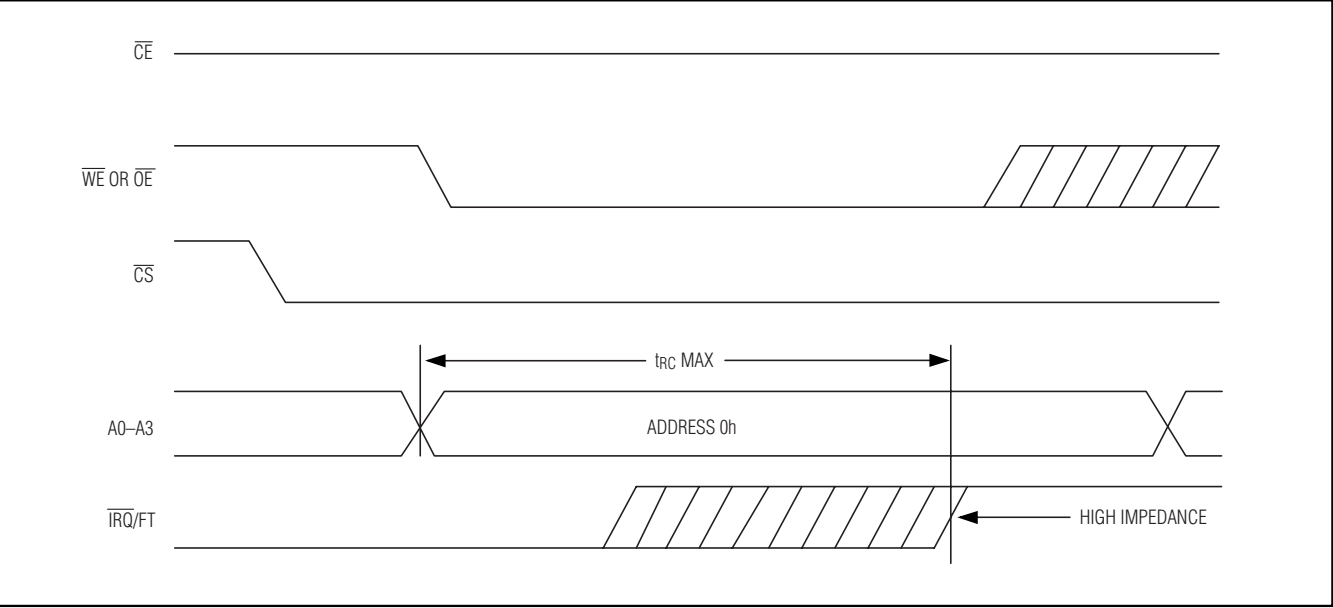
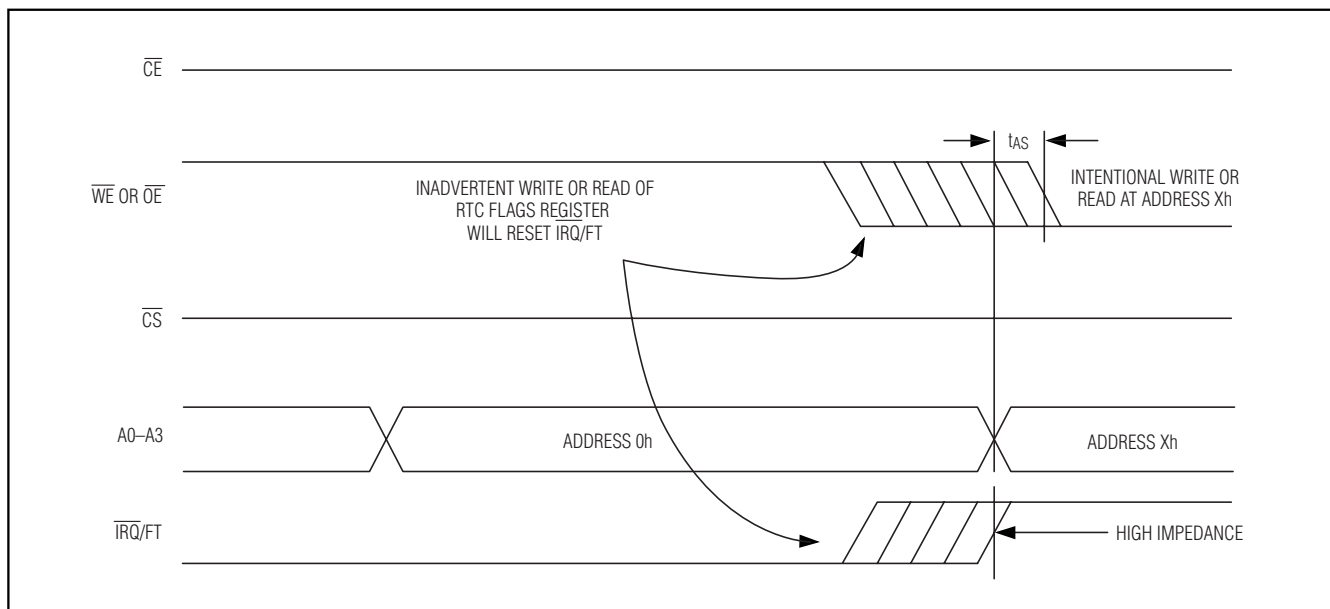

Figure 1. Clearing Active IRQ Waveforms
Figure 2. Prevent Accidental Clearing of IRQ Waveforms
When the RTC register values match alarm register settings, the alarm flag (AF) is set to a 1. If AE is also a 1, the alarm condition activates the $\overline{\text{IRQ/FT}}$ output. When $\overline{\text{CS}}$ is active, the $\overline{\text{IRQ/FT}}$ signal can be cleared by holding the FLAGS register address stable for t_{RC} and forcing either $\overline{\text{OE}}$ or $\overline{\text{WE}}$ active (see Figure 1). The flag does not change state until the end of the read/write cycle and after the $\overline{\text{IRQ/FT}}$ signal has deasserted. To avoid inadvertently clearing the $\overline{\text{IRQ/FT}}$ signal while preparing for subsequent write/read cycles at other register addresses, assure that t_{AW} is met for that subsequent address (see Figure 2).